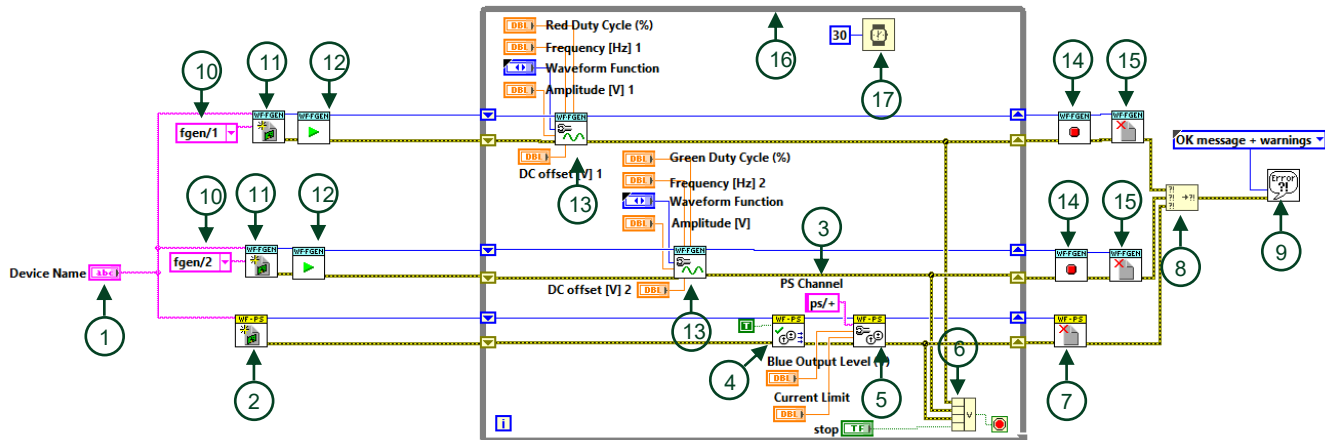

Figure 5 VI Block Diagram for RGB LED Control Using W1, W2, and V+
2.1. Modify the block diagram as shown in **Figure 5**.
Figure 5 shows the NI LabVIEW block diagram for RGB LED control using two waveform generator channels and one power-supply output. The Red LED is controlled by **fgen/1**, the Green LED by **fgen/2**, and the Blue LED by **ps/+**.